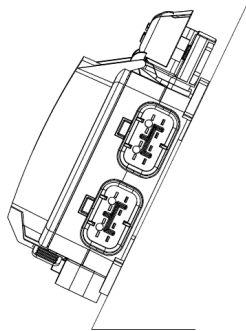
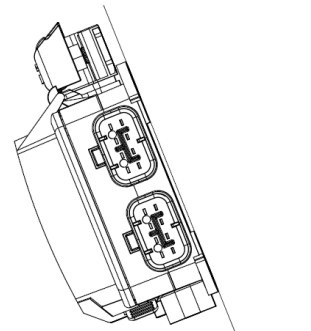
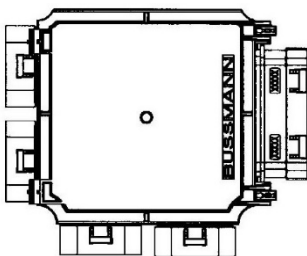
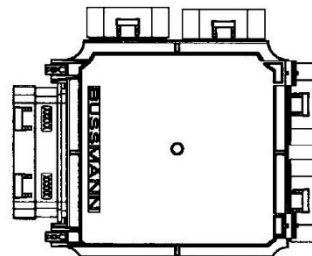

Figure 4. Recommended Mounting - Less than 90°
Figure 5. NOT Recommended - Greater than 90°
Figure 6. Recommended - No connectors on bottom
Figure 7. Not Recommended - Connectors on bottom
- If horizontal mounting is not an option for the application, it is recommended that the VEC be mounted at an angle 0-90° from horizontal (Figure 4.). It is NOT recommended to mount the VEC at an angle greater than 90° from horizontal due to drainage issues (Figure 5.). Eaton also recommends mounting the unit with connector facing down (Figure 6). This will prevent any water that the VEC may be exposed to from collecting in sealed connectors. (Figure 7.)
Figures 4 & 5 are very important respective of exterior mounting of ssVEC/ssDVEC where ssVEC/ssDVEC could see moisture – moisture could collect inside the connectors and result in product performance issues, corrosion, etc.